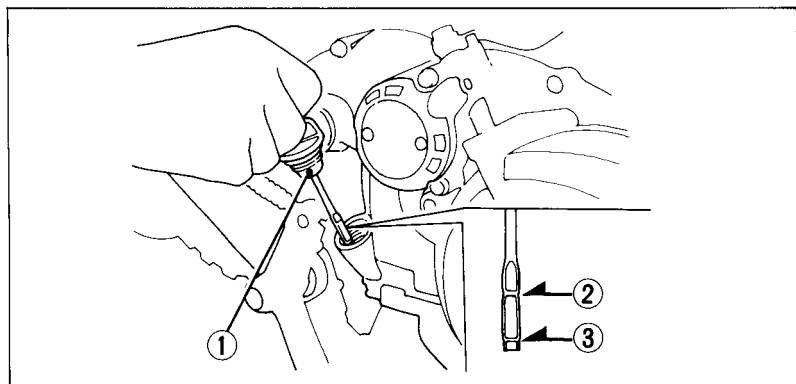

Fig. 2-24
The oil filler cap/dipstick (Fig. 2-24), on the right crankcase cover, is used to measure the oil level. The oil should be checked each day before operating the TRX300 and maintained between the upper level mark (2) and the lower level mark (3).